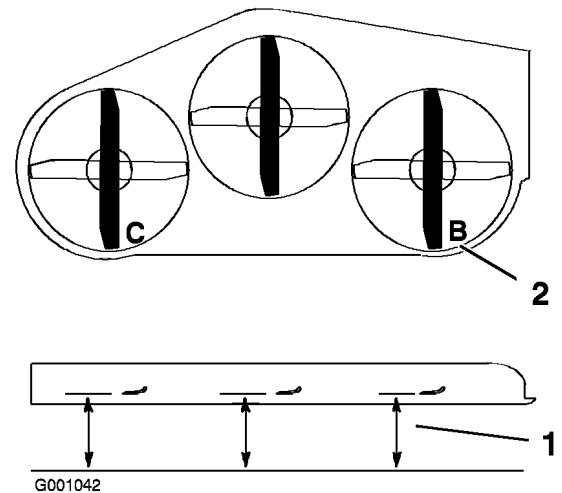

Figure 57
1. Position the **right** blade front-to-rear (Figure 57).
2. Measure the right blade at the **B** location, from a level surface to the cutting edge of the blade tip (Figure 57).
4. Position the left blade front-to-rear (Figure 57).
5. Measure the left blade at the **C** location (Figure 57), from a level surface to the cutting edge of the blade tip .